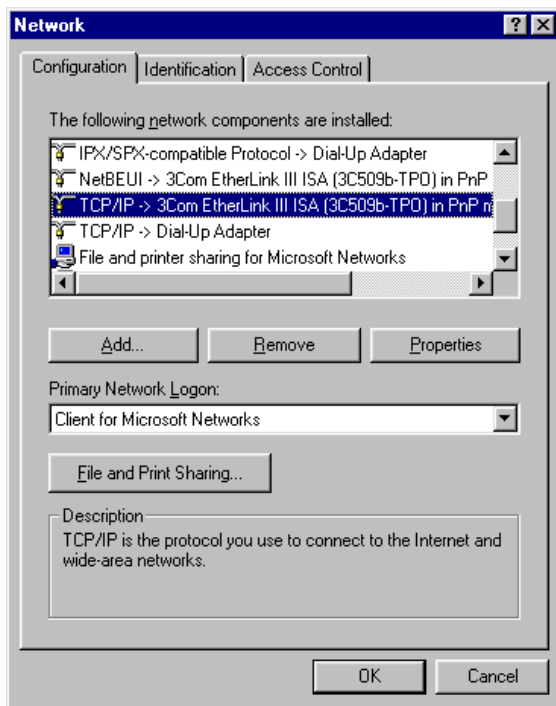

Figure 1
4. In the **Configuration** window, highlight the appropriate **TCP/IP Network Component** (see Figure 1)